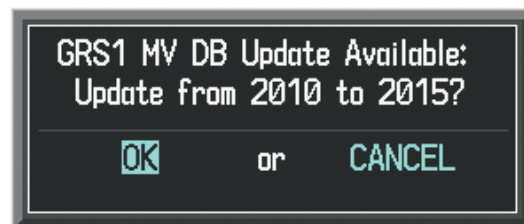
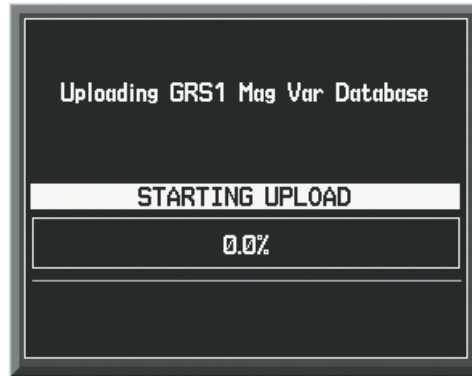

Figure B-12 GRS1 Magnetic Field Variation Database Update Prompt
Figure B-13 Uploading Database to GRS1
A copy of the current magnetic field variation database (MV DB) is included with the navigation database. At startup, the system compares this version of the MV DB with that presently being used by each AHRS (GRS1 and optional GRS2). If the system determines the MV DB needs to be updated, a prompt is displayed on the Navigation Map Page, similar to Figure B-12. Note, in the following example, GRS1 is the first AHRS to indicate an update is available. In actuality, this is dependent on which AHRS is the first to report status to the system. GRS2 may be displayed before GRS1. The order is not important, only that each AHRS be updated, if more than one is installed.
- 1) With 'OK' highlighted, as seen in Figure B-12, press the **ENT** Key on the MFD. A progress monitor is displayed as shown in Figure B-13.